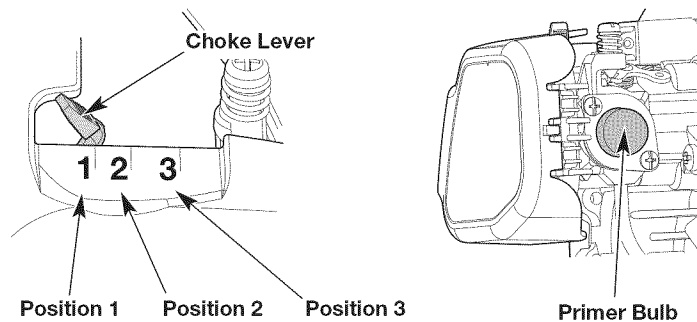

Fig. 8
3. Slowly press and release the primer bulb **10 times** (Fig. 8). If fuel cannot be seen in the primer bulb, press and release the primer bulb until fuel is visible.
4. Move the choke lever to **Position 1** (Fig. 8).
7. Continue to squeeze the throttle control. Move the choke lever to **Position 2** (Fig. 8).
10. Continue to squeeze the throttle control. Move the choke lever to **Position 3** (Fig. 8) and continue warming the engine for an additional 60 seconds. The unit may be used during this time.
**IF...** the engine hesitates, return the choke lever to **Position 2** (Fig. 8) and continue the warm-up.